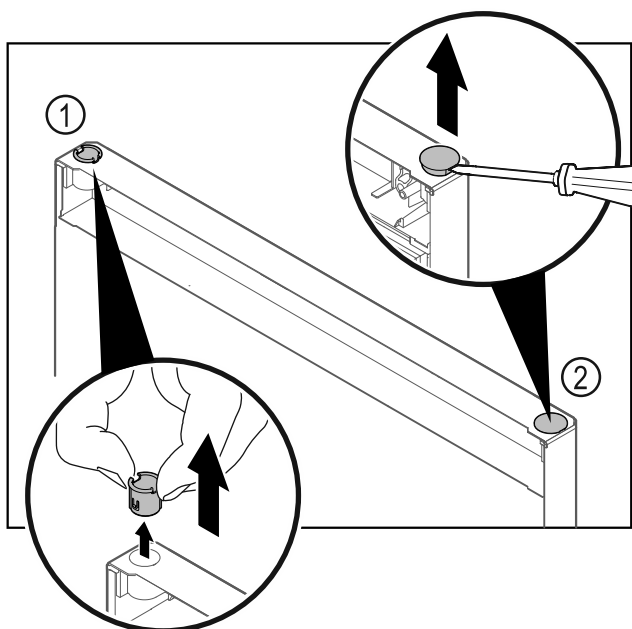

Fig. 27 Fridge compartment door
- Pull out the hinge bushing Fig. 27 (1) with your fingers.
- Carefully lift the cover plug Fig. 27 (2) with a slotted screwdriver and pull it out.